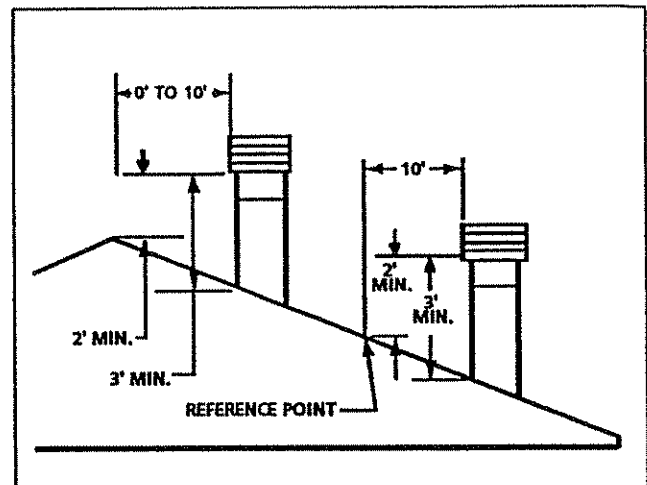

Fig. 19. Ten foot rule for chimney height.
**WARNING:** Major U.S. building codes specify minimum chimney and/or vent height above the roof top. These minimum heights are necessary in the interest of safety. These specifications are summarized in the Ten Foot Rule. (See Fig. 19.)
2. If a horizontal distance from the edge of the vent or chimney to the peak of the roof is more than 10 feet, a vent or chimney height reference point is established that is on the surface of the roof a distance of 10 feet from the edge of the vent or chimney in a horizontal plane. (See Fig. 19.) The top of the vent or chimney must be at least 2 feet above this reference point, but never less than 3 feet in height above the highest point where it passes through the roof.